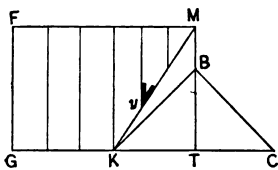

Fig. 76.—Finding Lengths and Bevels of the Jack Rafters on the Right Side of the Front Gable.
**T**O FIND the lengths and bevels of the jacks on the right side of the front gable draw a horizontal line G C, Fig. 76, representing the plate line. On this line set off the location of the right gable K C. From the center of the gable set off the length of common rafter on the front gable T M, which is the same as G F of Fig. 74. Connect M with K for the position of valley rafter for finding the lengths and bevels of jacks on the right side of the front gable. Square up the length of the common rafter on the